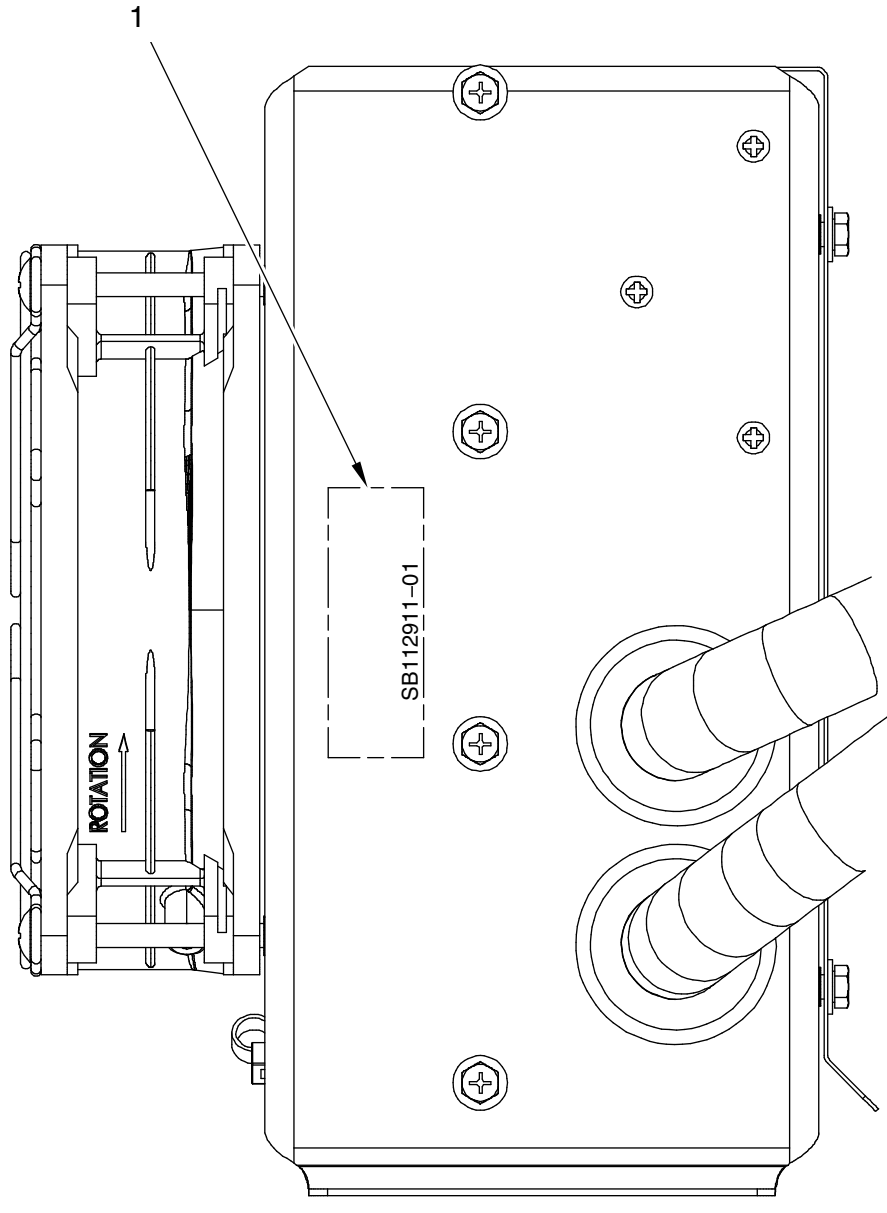

Figure 11
- (23) Final Inspect work completed. _____
- (24) Do a Adjustment/Test of the ITPCA. Refer to AMM - 21-00-00-A - AIR CONDITIONING - ADJUSTMENT/TEST or AMM - 21-00-00-B - AIR CONDITIONING - ADJUSTMENT/TEST. _____
- (25) With a fine point indelible marker, signify the completion of this service bulletin by printing neatly "SB 500-21-003" in the space available on the controller label (1, Figure 11). _____